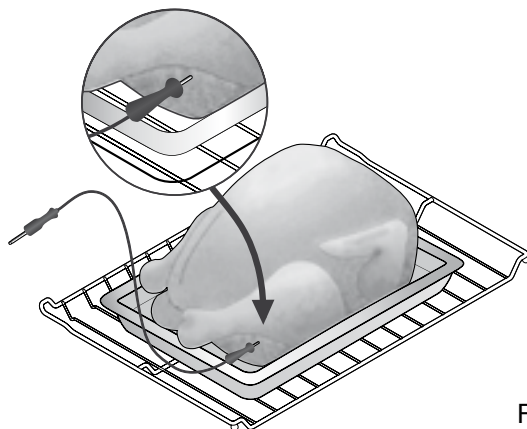

Fig. 1
- For whole poultry or turkey, insert the probe into the thickest part of the inner thigh, below the leg -Fig. 1-.